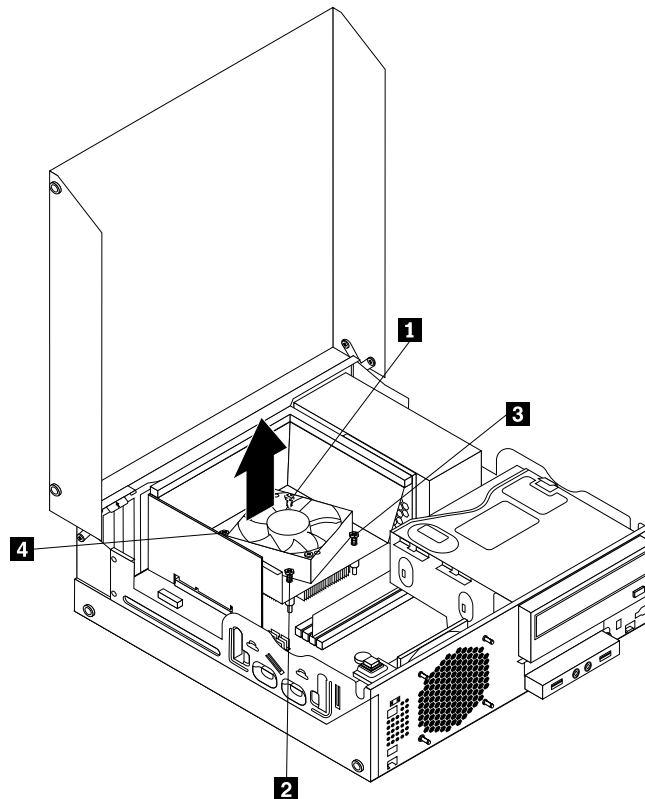

Figure 18. Screws that secure the heat sink and fan assembly
8. Follow this sequence to install the four screws to secure the new heat sink and fan assembly, as shown in Figure 18 “Screws that secure the heat sink and fan assembly” on page 38: